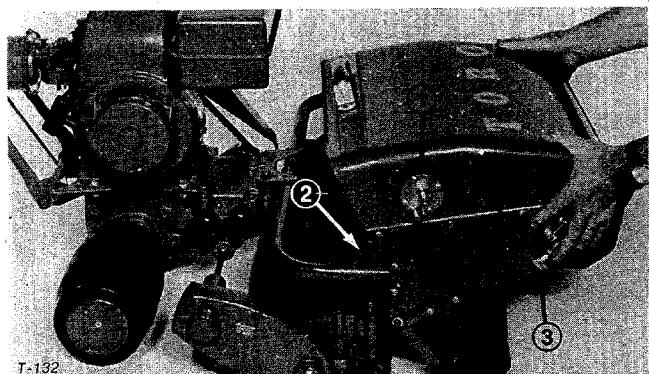

Figure 7
1. Set pins on basket pivots into brackets on yoke and allow basket adjusting brackets to rest onto yoke (Fig. 7).
Note: Basket should be lower in front to assist clipping throw into basket. Adjust brackets to lower basket (Fig. 7). Make sure basket clears roller by at least $1/16$ in. (1.6 mm).
3. Loosen jam nuts on each side of basket and rotate adjusting brackets (Fig. 7). Be sure dimension is equal on both ends of unit and tighten jam nuts.
1. Remove the basket pivots from each side of the basket (Fig. 7).